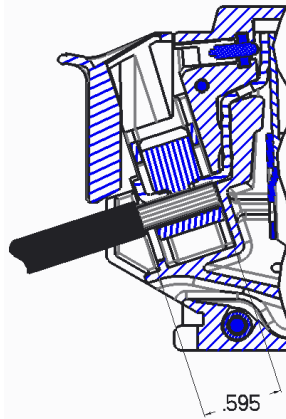

Figure 4: Stripped wire installed
6. Wire the circuit breaker to be used as main. Fig. 4
After stripping the wires to the required length, the wires can be installed as shown in Figure 4. The service barrier must be correctly installed to maintain electrical isolation from accidental contact. Torque the wires according to the torque specification on the breaker.